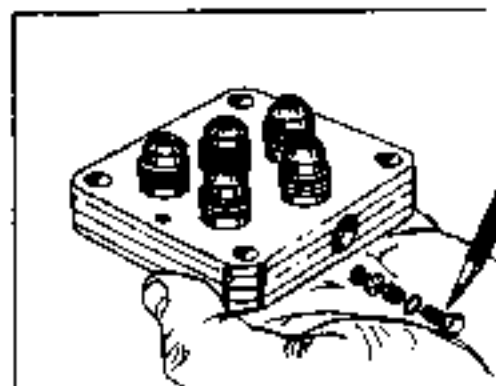

FIGURE 8.
- 5A. If included, remove from the port cover (2) the loosened hex plug (6A) and O-ring (7A). Discard O-ring. Remove relief valve cartridge and spring assembly (5A) and (5B). Replace valve and spring assembly (5A) if spring is distorted or bent. A bent or lost spring (5B) can be serviced separately. See figure 8.